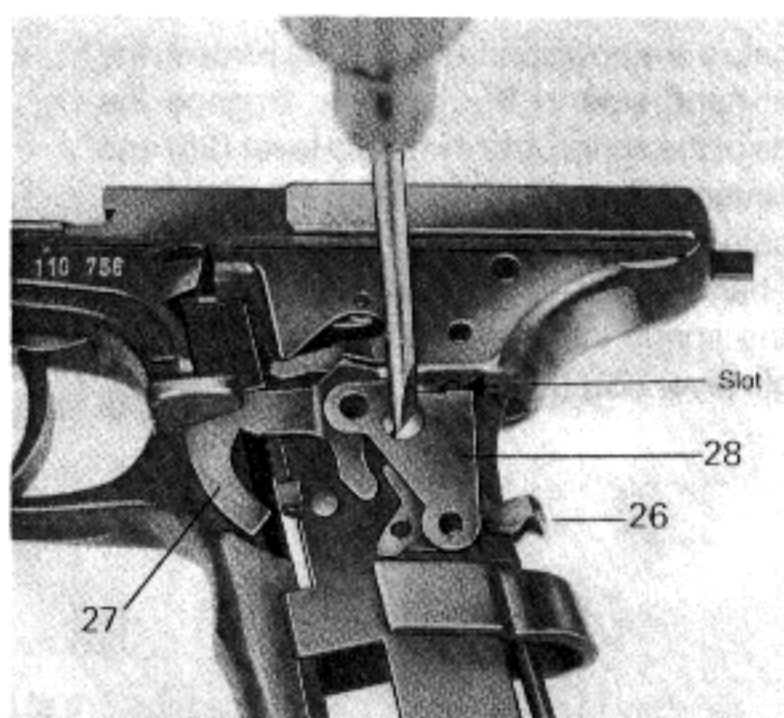
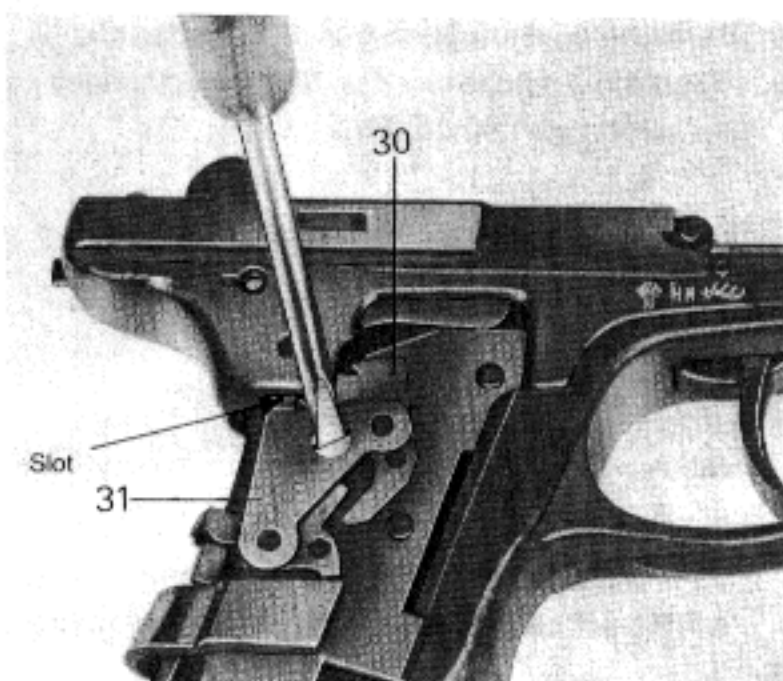

Fig. 46
Fig. 47
- Mount the angle lever (26), cocking lever (27) and the left-hand bearing plate (28) onto the receiver and attach the bearing plate to the **left-hand side of the receiver** with countersunk screws (29) (Fig. 46).
When inserting the cocking lever, press catch (2) and the arm of the safety latch (16) slightly upwards. Engage the short nose of the bearing plate into the slot provided in the receiver (see arrow, Fig. 46), making certain that the pin on the carrier also locates in the drill hole in the angle lever.
- When inserting the intermediate lever (30), push the pull bar (18) slightly upwards and locate it on the pivot in the receiver.
- Introduce the short nose of the right-hand bearing plate (31) into the slot on the other side of the receiver (see arrow, Fig. 47) and one pin into the drill hole in the angle lever.
- Attach the bearing plate with countersunk screw (29) (Fig. 47).